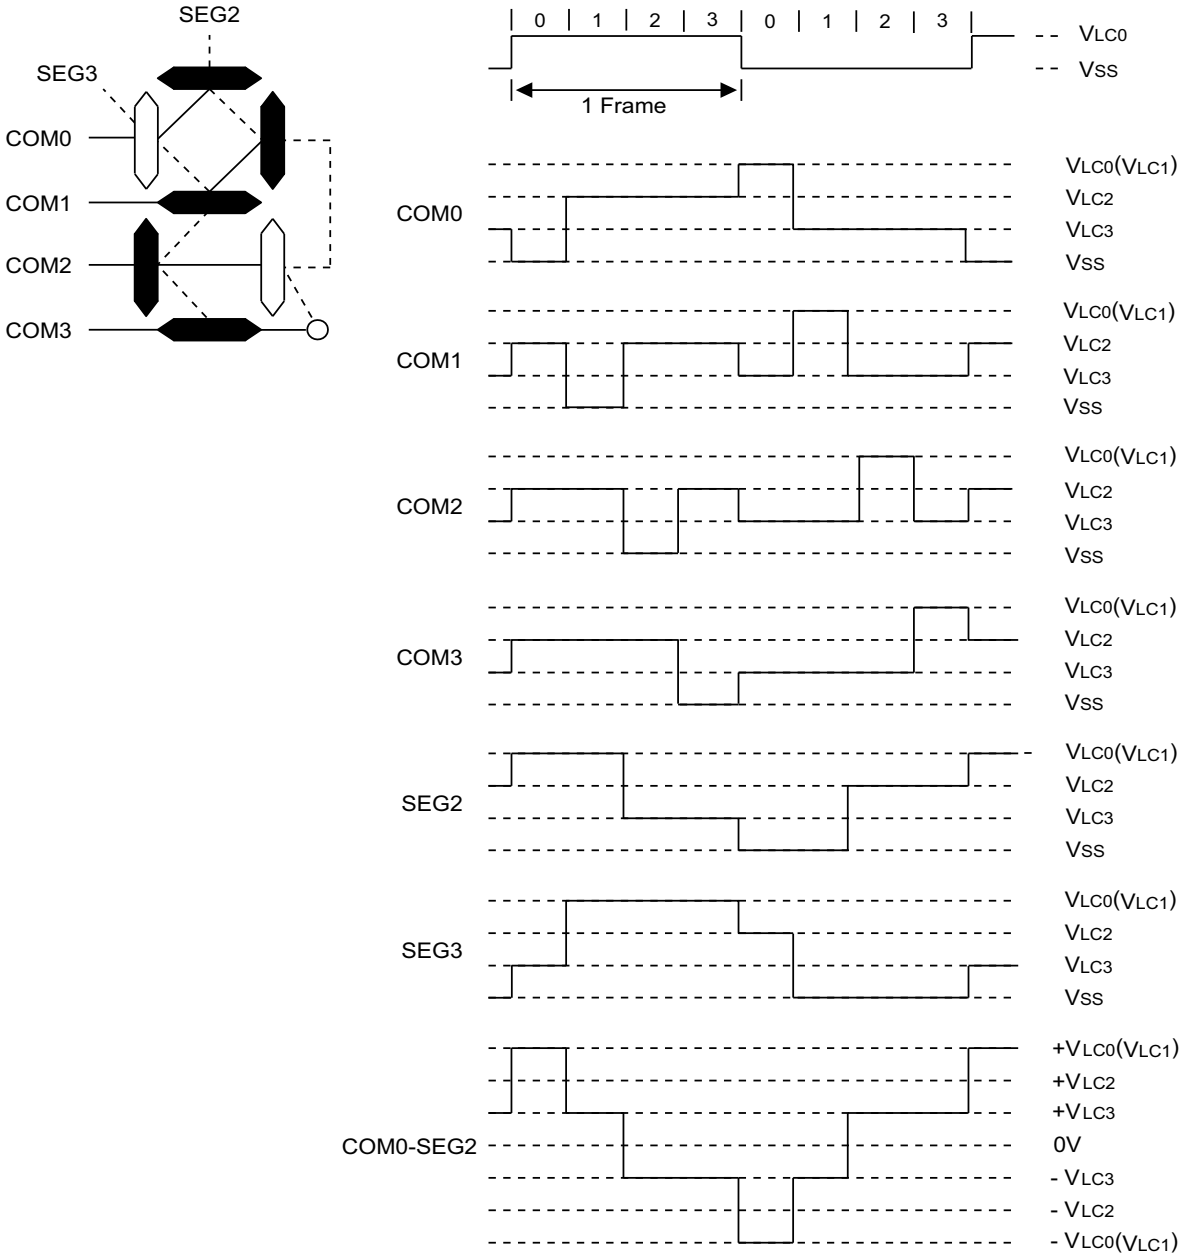

Figure 93. LCD Signal Waveforms: 1/4 Duty, 1/3 Bias
► **Note:** In Figure 93,  $V_{LC0} = V_{LC1}$ .